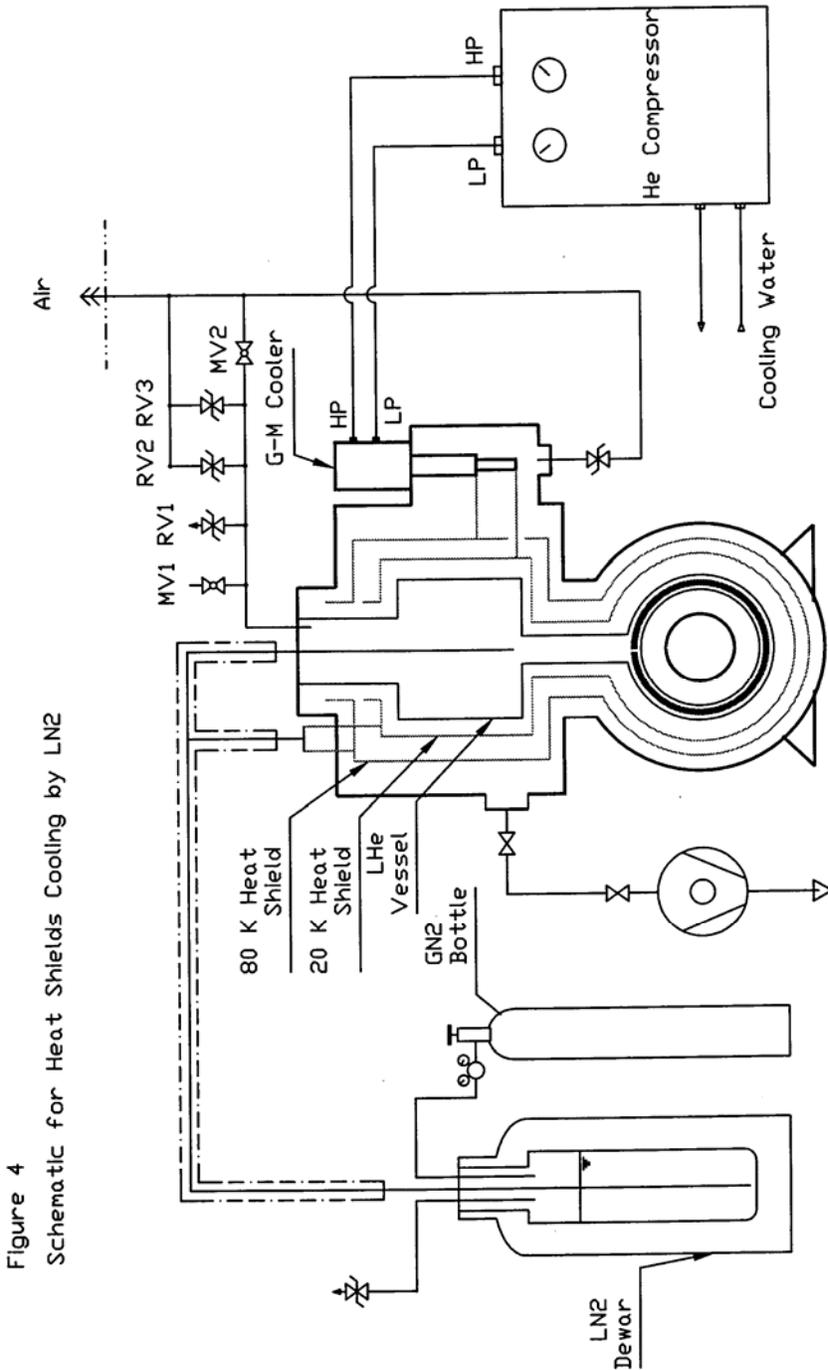

Figure 4
- 8.6 Figure 4. Schematic for heat shield cooling using LN2.